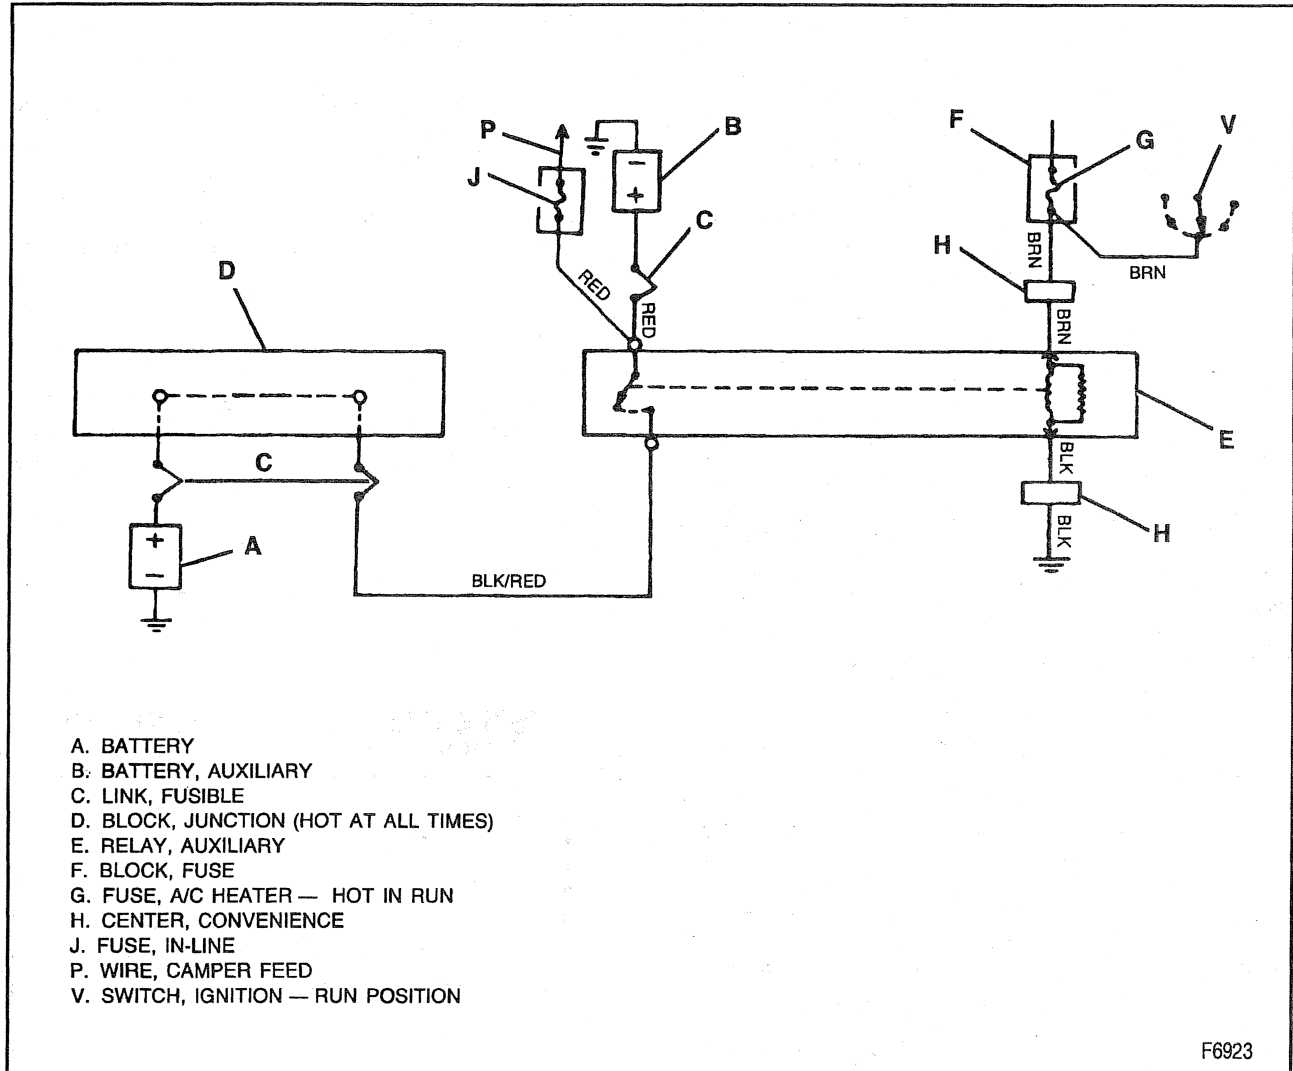

Figure 6—Auxiliary Battery Schematic
Circuit operation is shown in figure 6. Constant voltage is supplied from the main battery (A) through the junction block (D) and the black/red wire to the relay. Constant voltage is also supplied by the auxiliary battery (B) to the relay and through the red feed wire (P) to the camper. When the ignition switch is turned to RUN, current flows through the heater/air conditioning fuse in the fuse block, through the convenience center, and across the coil in the relay. The relay energizes and the contacts close. The auxiliary battery can now be charged by the vehicle's charging system.